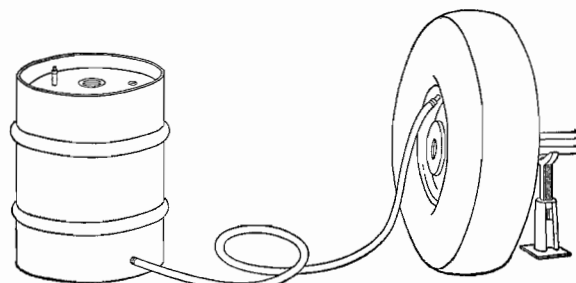

Fig. 27.
3. Pressure Tank; fill a closed container with liquid, which will withstand air pressure of 100 or more pounds, and attach air hose to inlet on container to force liquid into the tube. (See Fig. 27.)